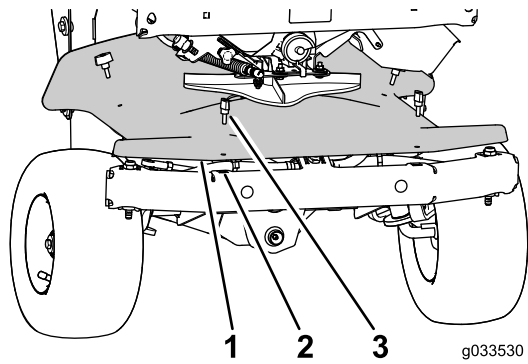

Figure 25
- Remove the 4 thumbscrews that secure the front cover (below the impeller) to the chassis, and remove the cover (Figure 25).